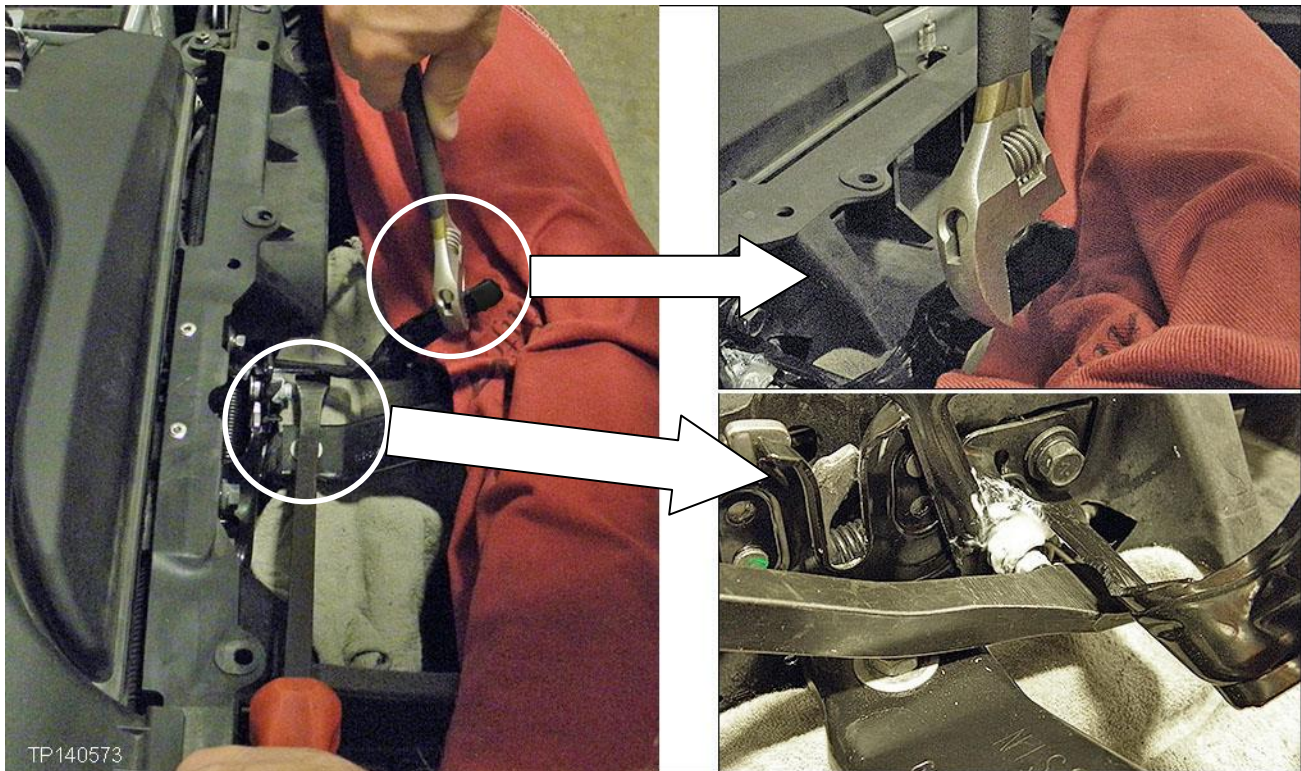

Figure 10
12. Position the angle end pry-bar and an 8-inch adjustable wrench on the secondary hood latch lever as shown in Figure 10.